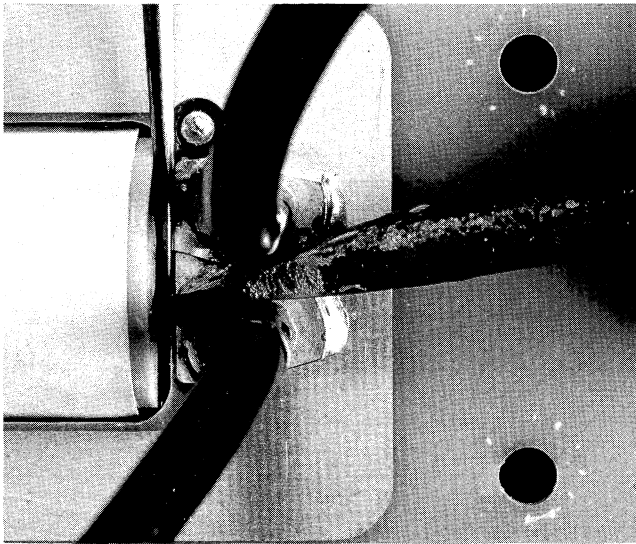

Fig. 3-6. Soldering iron and scribe positions for lifting a shield strap.
3. Remove soldered parts by first lifting the shield grounding straps. Fig. 3-6 shows a scribe used to push the molten solder out from under a strap. Then, remove the soldering iron as soon as possible and let the assembly cool before lifting another strap. A small fan will speed cooling.